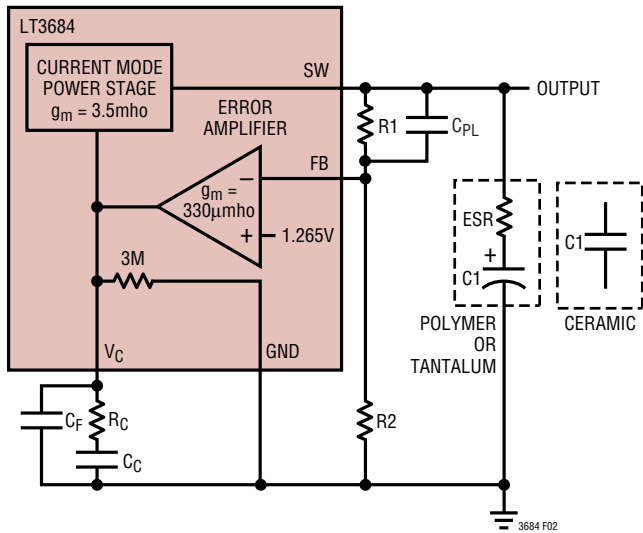

Figure 2. Model for Loop Response
The LT3684 uses current mode control to regulate the output. This simplifies loop compensation. In particular, the LT3684 does not require the ESR of the output capacitor for stability, so you are free to use ceramic capacitors to achieve low output ripple and small circuit size. Frequency compensation is provided by the components tied to the VC pin, as shown in Figure 2. Generally a capacitor (CC) and a resistor (RC) in series to ground are used. In addition, there may be lower value capacitor in parallel. This capacitor (CF) is not part of the loop compensation but is used to filter noise at the switching frequency, and is required only if a phase-lead capacitor is used or if the output capacitor has high ESR.
Loop compensation determines the stability and transient performance. Designing the compensation network is a bit complicated and the best values depend on the application and in particular the type of output capacitor. A practical approach is to start with one of the circuits in this data sheet that is similar to your application and tune the compensation network to optimize the performance. Stability should then be checked across all operating conditions, including load current, input voltage and temperature. The LT1375 data sheet contains a more thorough discussion of loop compensation and describes how to test the stability using a transient load. Figure 2 shows an equivalent circuit for the LT3684 control loop. The error amplifier is a transconductance amplifier with finite output impedance. The power section, consisting of the modulator, power switch and inductor, is modeled as a transconductance amplifier generating an output current proportional to the voltage at the  $V_C$  pin. Note that the output capacitor integrates this current, and that the capacitor on the  $V_C$  pin ( $C_C$ ) integrates the error amplifier output current, resulting in two poles in the loop. In most cases a zero is required and comes from either the output capacitor ESR or from a resistor  $R_C$  in series with  $C_C$ . This simple model works well as long as the value of the inductor is not too high and the loop crossover frequency is much lower than the switching frequency. A phase lead capacitor ( $C_{PL}$ ) across the feedback divider
Capacitor  $C_3$  and the internal boost Schottky diode (see the Block Diagram) are used to generate a boost voltage that is higher than the input voltage. In most cases a 0.22µF capacitor will work well. Figure 2 shows three ways to arrange the boost circuit. The BOOST pin must be more than 2.3V above the SW pin for best efficiency. For outputs of 3V and above, the standard circuit (Figure 4a) is best. For outputs between 2.8V and 3V, use a 1µF boost capacitor. A 2.5V output presents a special case because it is marginally adequate to support the boosted drive stage while using the internal boost diode. For reliable BOOST pin operation with 2.5V outputs use a good external Schottky diode (such as the ON Semi MBR0540), and a 1µF boost capacitor (see Figure 4b). For lower output voltages the boost diode can be tied to the input (Figure 4c), or to another supply greater than 2.8V. The circuit in Figure 4a is more efficient because the BOOST pin current and BIAS pin quiescent current comes from a lower voltage source. You must also be sure that the maximum voltage ratings of the BOOST and BIAS pins are not exceeded.